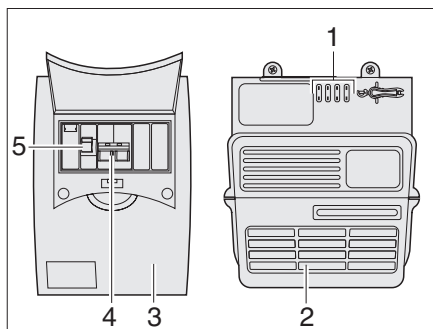

Fig. 94 Power pack and automatic circuit breaker
Fuse box The 230 V fuse box (Bild 94,3) is mounted next to the power pack (Bild 94,2).
The main fuse (Bild 94,4) and a residual-current circuit-breaker (Bild 94,5) are located in the fuse box (Bild 94).
The residual current circuit-breaker (Bild 94,5) measures the current flow of the current feed and return lines. If the two lines are equivalent, the residual-current circuit-breaker does not become active. If there is a difference between the lines the breaker interrupts the current flow immediately. This prevents dangerous electrical accidents.
- Switch the main switch (Bild 94,4) upwards to the "ON" position.
- Switch the residual-current circuit-breaker (Bild 94,5) upwards to the "ON" position.